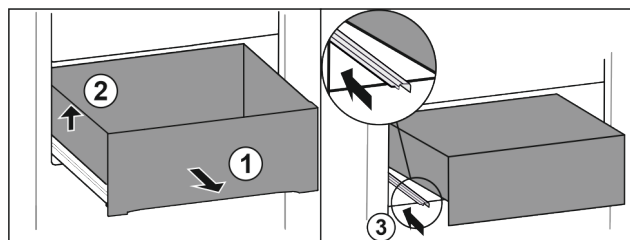

Fig. 47
- Pull out drawer as far as it will go. Fig. 47 (1)
- Lift drawer on the left. Fig. 47 (2)
- Slide in left rail. Fig. 47 (3)